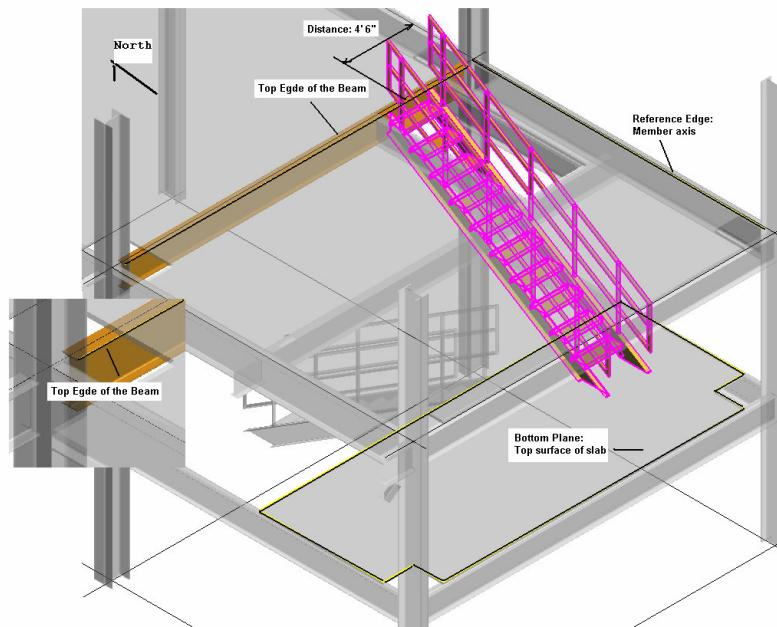

Figure 19 – ISO View of the second stair.
- 5 Select the reference edge for the stair. See Figure 19.